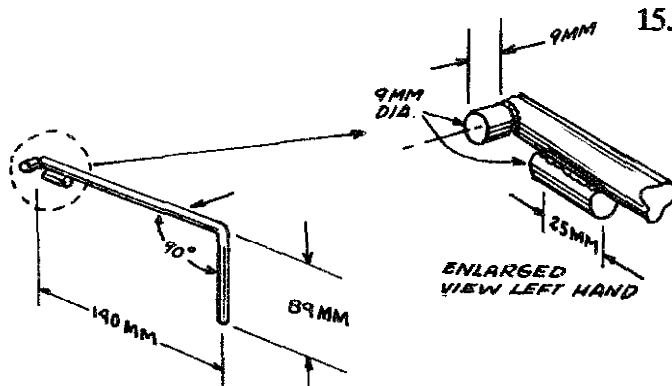

FIGURE 10 MAKE 4 LEVERS, 2 RIGHT HAND AND 2 LEFT HAND
5. Mild steel rods, 10mm x 22.9cm (3/8" x 9") (see Figure 10). Four are needed. These are bent to form the levers and are welded into pairs by means of the